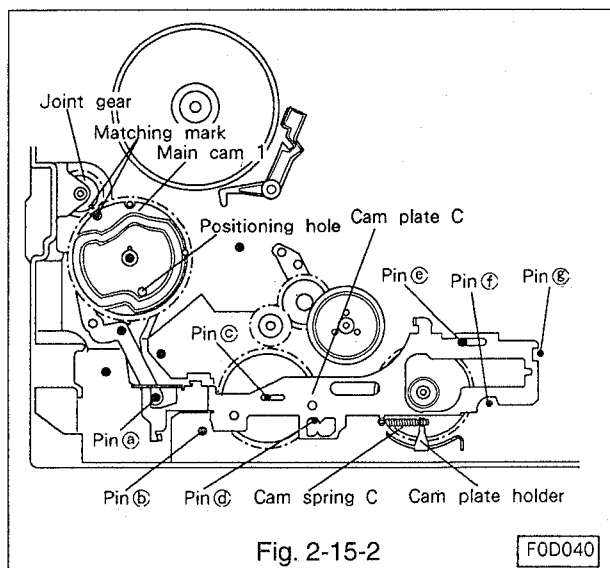

Fig. 2-15-2
- Take care not to move the lever RS and lever C, assemble the main cam 1 to the shaft by lining the matching mark of the joint gear with the positioning hole of main plate. Secure the main cam 1 with the grip ring. (Refer to Fig. 2-15-2.)
- Assemble the thrust washer to the pin (c) shown in Fig. 2-15-2, and install the cam plate C so that the corresponding positions of the plate match the pins (a ~ g).
- Fasten cam spring C to the cam plate C and the cam plate holder. (Refer to Fig. 2-15-2.)